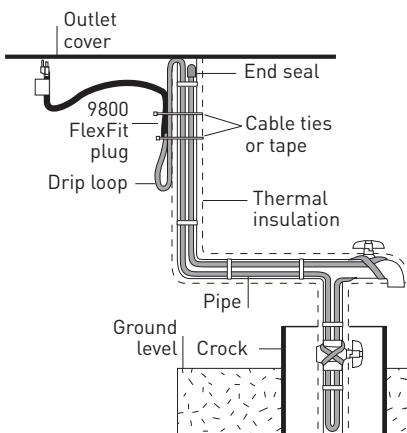

Figure 6. Multiple run installation
If you have excess heating cable at the end of your pipe, double it back along the pipe where the insulation will completely cover it as shown in Figure 6. Using 9610 application tape or equivalent, tape the end seal to the pipe as shown in Figures 1, 2, and 6.
**⚠ Important:** In a crock or standpipe, run the Frostex heating cable down and back up the pipe (as shown in Figure 6), so that the end seal is well above the ground level and will not be sitting in water.